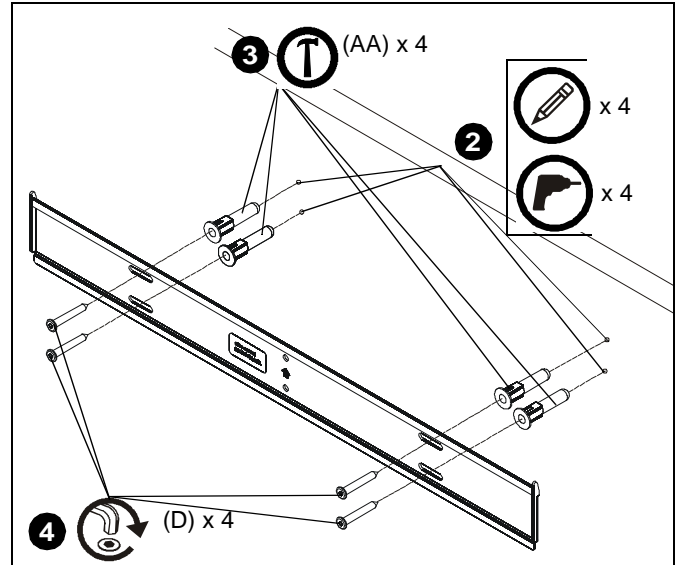

Figure 3
make sure wall plate is perfectly horizontal. Holes must be drilled at least 2-1/4" deep. (See Figure 3)
3. Install four 5/16" anchors (AA) into pilot holes drilled in Step 2. Use a hammer to lightly tap anchors into holes. (See Figure 3)
4. Install four connector screws (D) through wall plate holes and into anchors. (See Figure 3)
NOTE: Make sure locking flags are in the open position before attaching display to wall plate. Flags are shown in the open position in Figure 3.